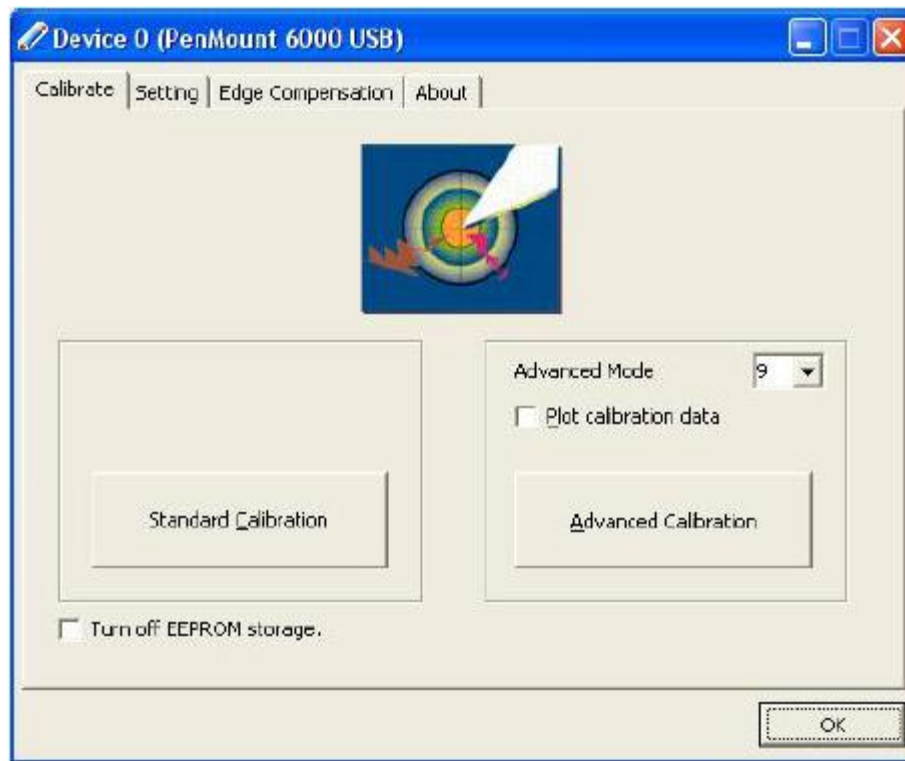

Figure 5-10: Calibration Initiation Screen
**Step 8:** The calibration initiation screen in **Figure 5-10** appears.
**Step 9:** Select the Standard Calibration button as shown in **Figure 5-10**.